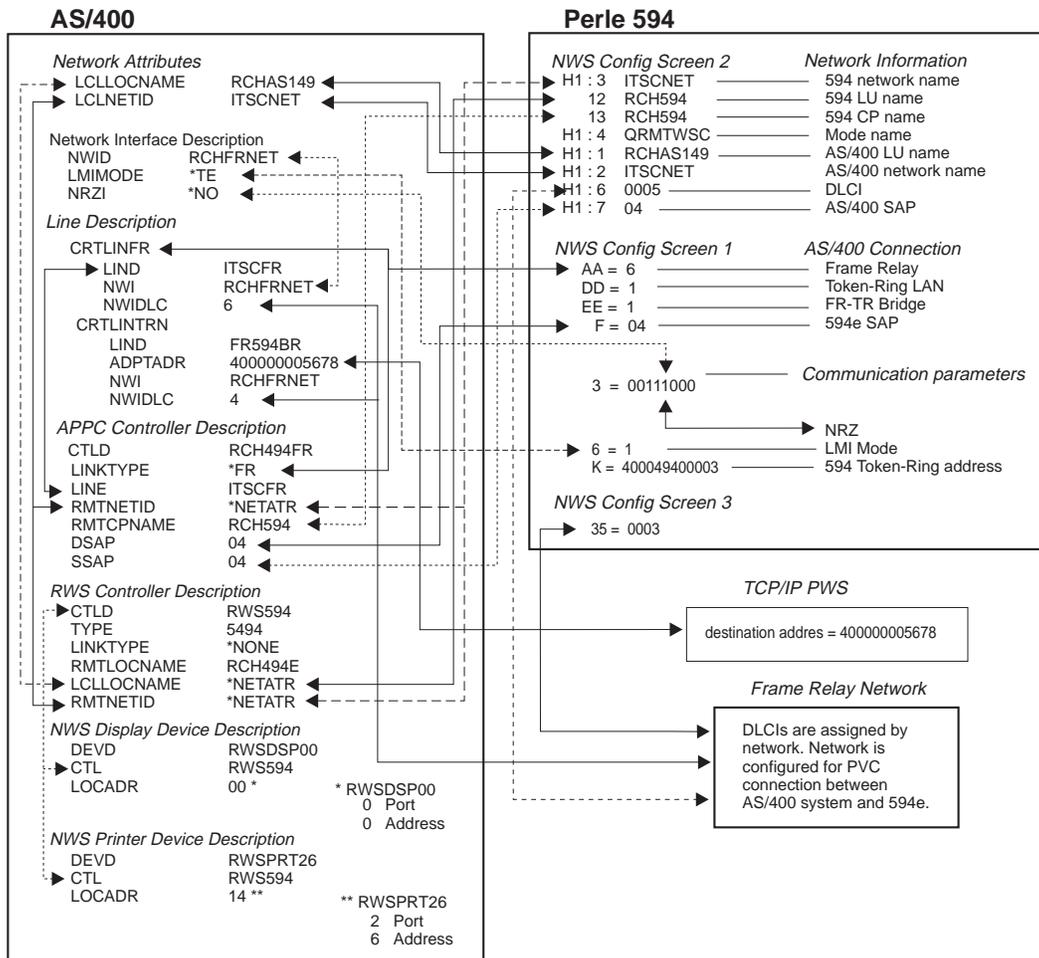

Fig. 18: AS/400 Frame Relay Configuration cross reference
- Fig. 18: AS/400 Frame Relay Configuration cross reference 10